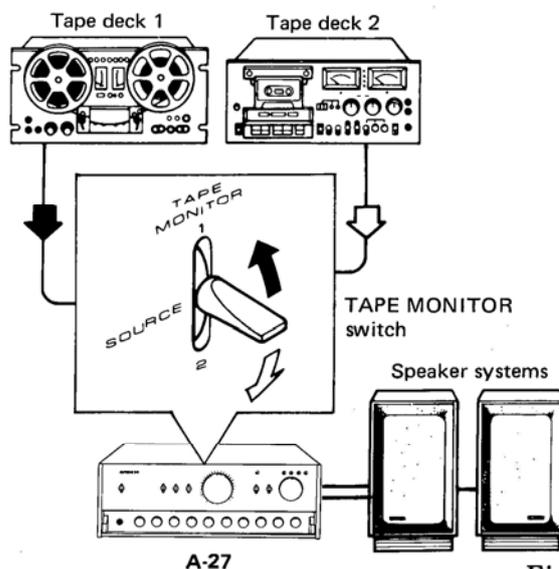

Fig. 15
1. As shown in Fig. 15, set the TAPE MONITOR switch to 1 if the tape deck is connected to the TAPE 1 jacks. Set the TAPE MONITOR switch to 2 if it is connected to the TAPE 2 jacks.